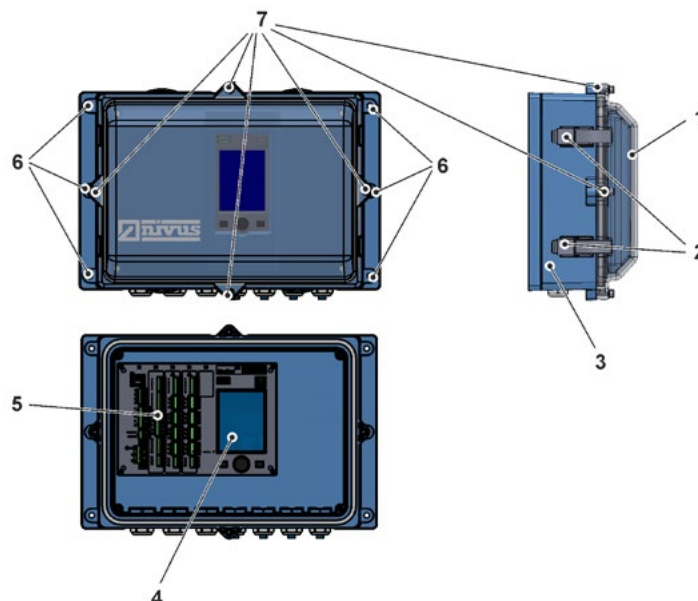

Fig. 20-1 Fastening the field enclosure
1. Fasten the field enclosure (Fig. 20-1 no. 3) on both lateral brackets by using the six previously selected screws through the fastening holes (6.5 mm diameter, Fig. 20-1 no. 6).
2. Remove the transport protection film from the clear view cover (Fig. 20-1 no. 1) if available.
1. To remove the clear view cover (Fig. 20-1 no. 1) from
Open the four lateral release clamps (Fig. 20-1 no. 2) and remove the enclosure cover.
Remove the four cylinder head screws M4x25 (Fig. 20-1 no. 7) and the washers, open the four lateral release clamps (Fig. 20-1 no. 2) and remove the enclosure cover.
2. To remove the blue inside cover loosen the four round head screws 3.5x25 in the corners and remove the cover. Now the transmitter including the display (Fig. 20-1 no. 4) and the terminal clamps (Fig. 20-1 no. 5) are fully accessible.